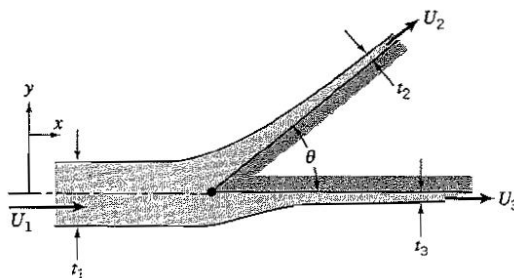

Figure P3.19
3.19 An effectively two-dimensional jet of water impinges on a wedge as shown in Figure P3.19. The wedge is supported at its apex such that the lower surface remains horizontal. Find the angle for which the magnitude of the x - and y -components of the reaction force at the apex are equal. Neglect gravity. The pressure is atmospheric everywhere.